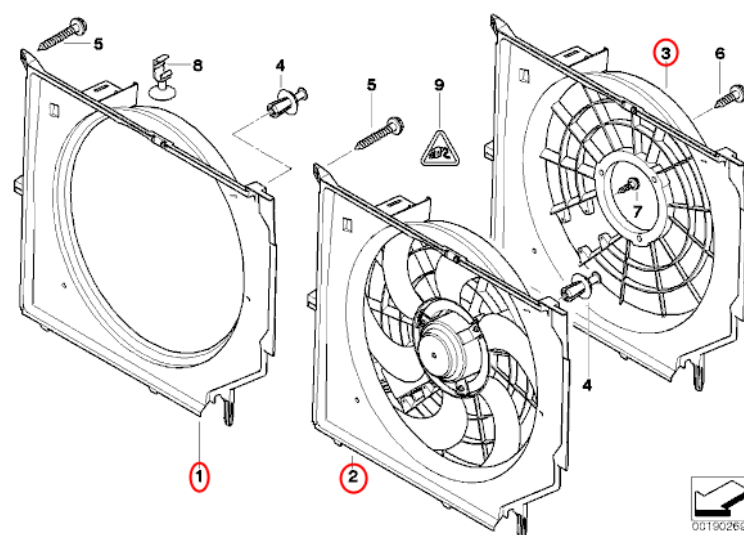

Figure 5
12. Disconnect electric fan and remove it (Figure 5, #1, 2 & 3).